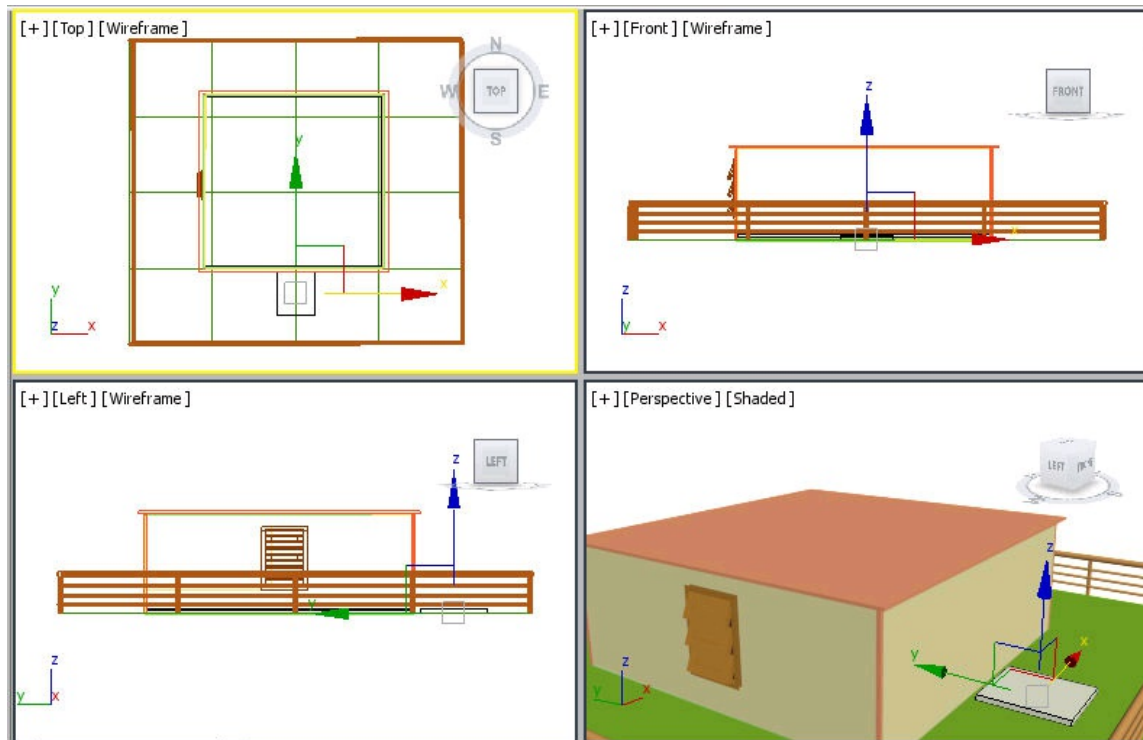

Figure 4-82 The foot support geometry in viewports after the alignment
5. Align *foot support* with the front side of *wall* in viewports, as shown in Figure 4-82.